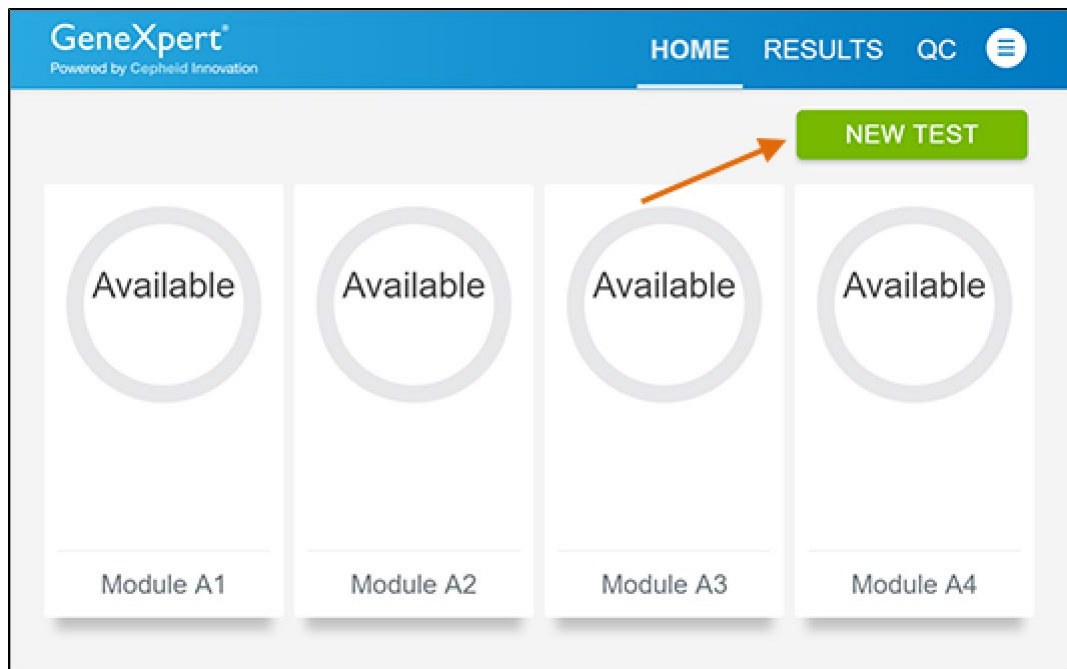

Figure 2. Home Screen
2. Touch the **NEW TEST** button on the **Home** screen (see Figure 2).